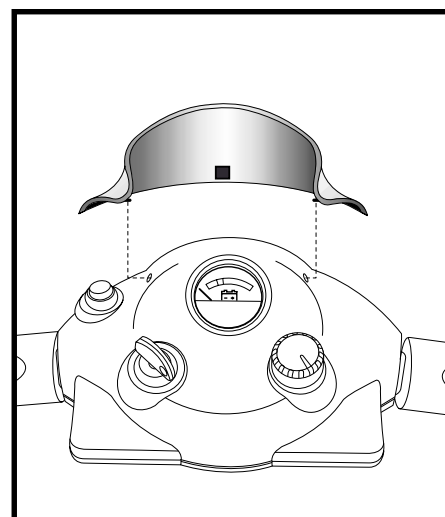

Figure 13. Tiller Console Visor
1. Gently pull the top of the visor toward the rear of the Travel Scooter to loosen it from the reusable fastener, then gently pull the sides of the visor away from the tiller console and lift. See figure 13.